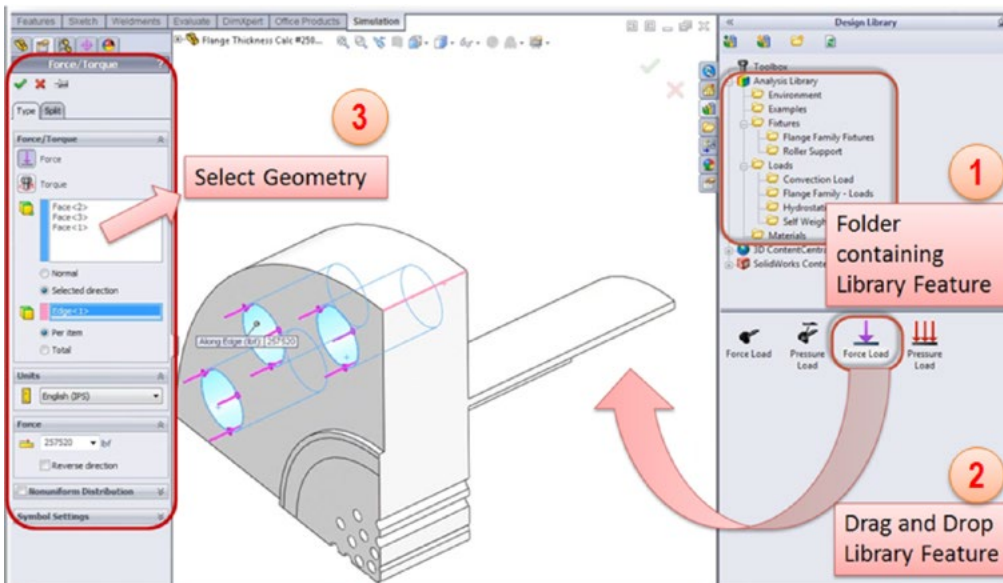

Figure 12: Reusing a simulation library feature using drag and drop
- The saved library feature can be simply dragged and dropped onto the CAD graphics window. The appropriate dialog box opens up and the user simply needs to complete the geometry selections. Figure 12 shows an example of a force load on a flange design. Note that the library feature already has a predefined value for the load.